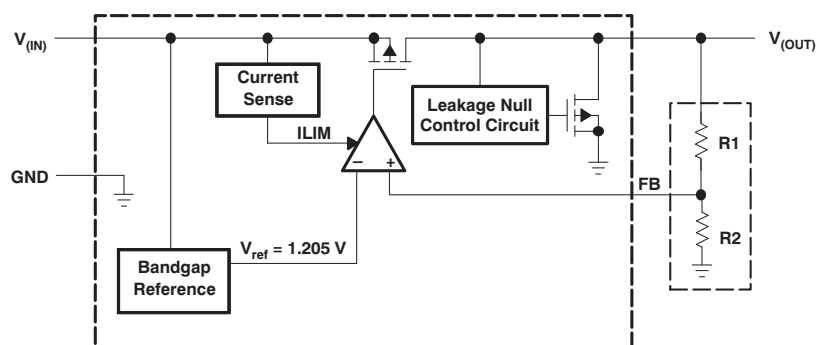

Figure 1. Functional Block Diagram—Adjustable Version
(1) Minimum  $V_{IN} = V_{OUT} + V_{DO}$  or the value shown for *Input voltage* in this table, whichever is greater.
(2) See Figure 1. The TPS715xx family employs a leakage null control circuit. This circuit is active only if output current is less than pass FET leakage current. The circuit is typically active when output load is less than  $5\text{ }\mu\text{A}$ ,  $V_{IN}$  is greater than  $18\text{ V}$ , and die temperature is greater than  $+100^{\circ}\text{C}$ .